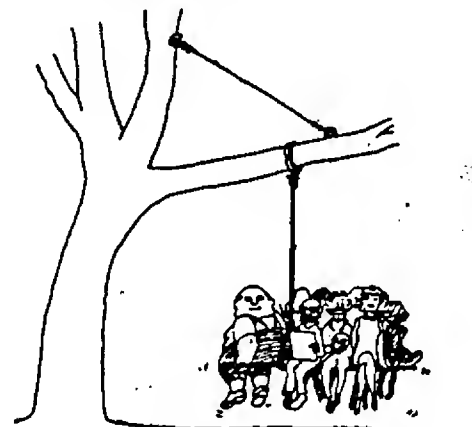

Figure 410 The Hanging Teeter Totter
31. The Hanging Teeter Totter: Build a strong teeter totter, preferably with cable and doubled planking and have it hanging from a stout tree limb so that the horizontal planking is about 3 feet from the ground. Have the group balance on the teeter totter. See Figure 410.